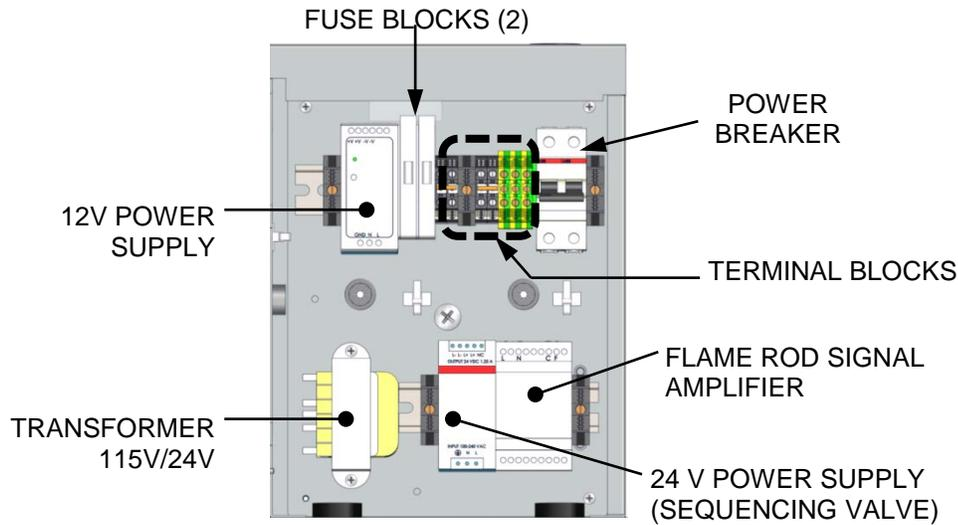

Figure 2-9a: BMK 750/1000 Power Box Internal Components
The power breaker shown in Figure 2-9a, 2-9b and 2-9c does **NOT** remove power from the terminal blocks.
- With the exception of the transformer shown in Figure 2-9a 2-9b, and 2-9c, all of the components in the Power Box are mounted on a DIN rail.